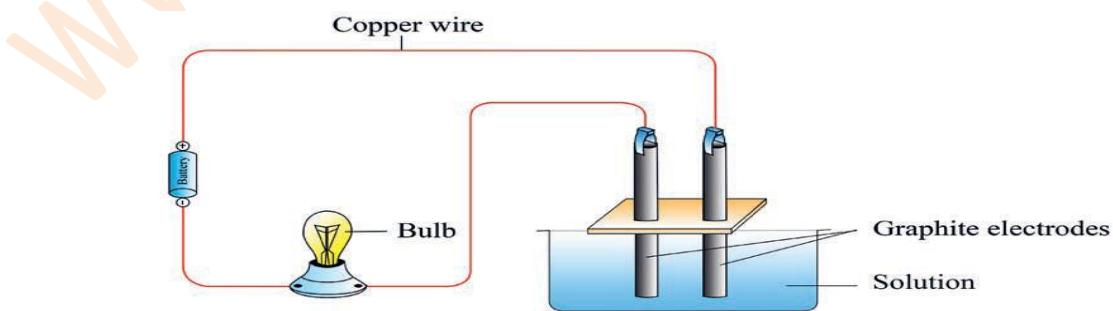

Figure 2. 1: Electrical Conductivity Apparatus
- These compounds consist of ions of opposite charges and in aqueous solution they exist as ions. In the presence of applied electrical field, these ions migrate to respective electrodes exhibiting electrical conductivity (Figure 2. 1).